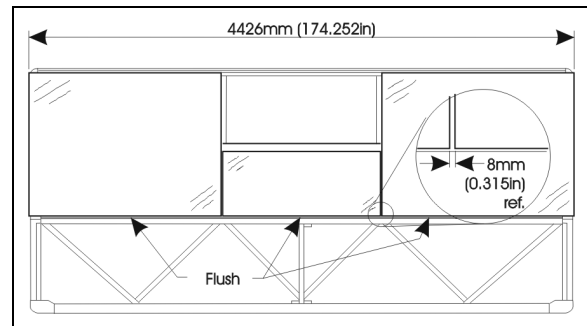
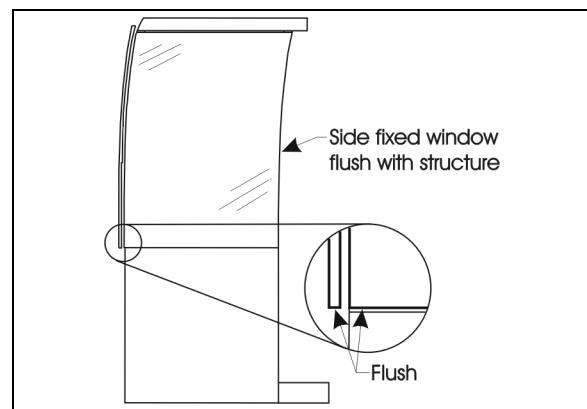

FIGURE 59 : FACE FIXED WINDOW INSTALLATION
FIGURE 60 : SIDE FIXED WINDOW
7. Install the windows on the slide-out structure (see FIGURE 59 or FIGURE 60).